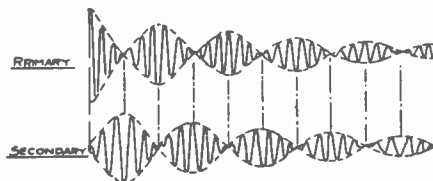

Fig. 2.
The second method of testing a condenser which is very useful at every station when you may not be in the possession of a buzzer is as seen in Fig. 2. By connecting a dry cell to one side of the condenser in series with a telephone receiver. P. T. is the positive terminal of the dry cell connected to one terminal of the condenser C to A, terminal B of the condenser is now connected to the
Out of three-quarter-inch wood saw two pieces, one two by two, the other four by four inches. Into the small block drill and countersink two one-sixteenth-inch holes in the position shown in Fig. 2; now place the small block in the center of the large one, so that a one-inch margin exists all around, and secure
M.E. -FIG 2-